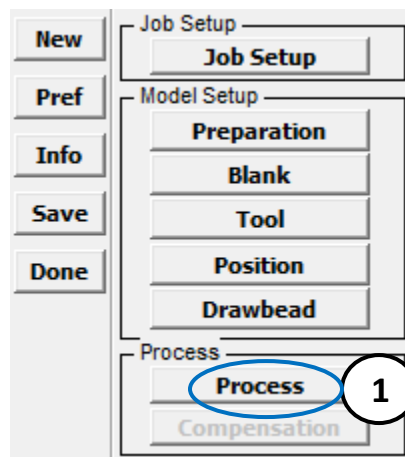

Figure 5
- click *Done* (Figure 5)
4. Define Process (refer to Figures 5 through 7)
click *Process* in the side panel in Figure 5 (launches *Metal Forming Process* Dialog box as shown in Figure 6)